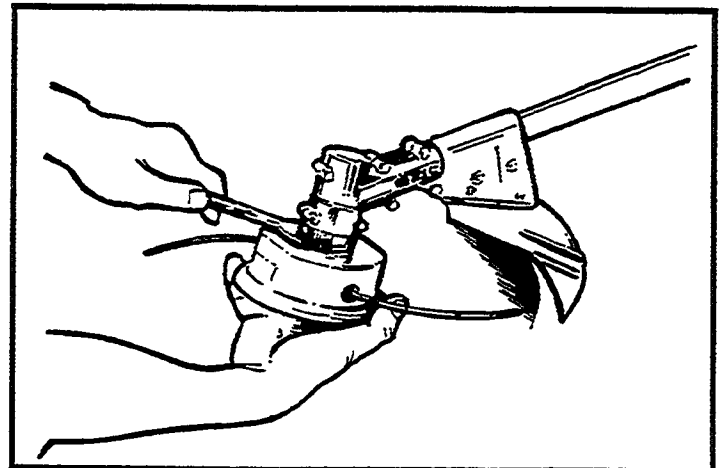

Figure 5
- While holding Holder (B) with large spanner wrench, thread rotary head onto gearcase as shown in (Figure 5). Tighten rotary head as tight as possible by hand.